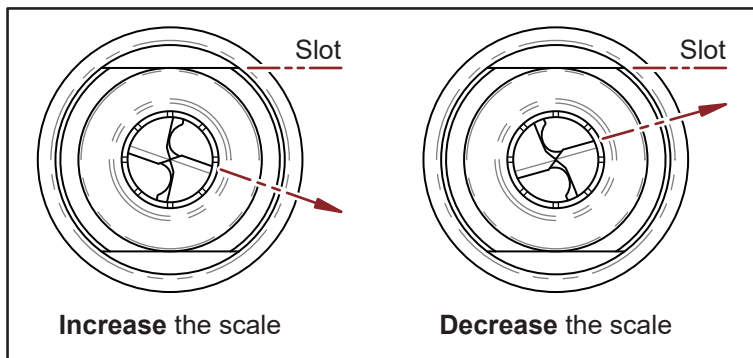

Fig. 8-5
- ✘ If the drill's cutting edge is not parallel to the slot of the clamping nut, adjust the scale and reposition the drill. (Fig. 8-5)